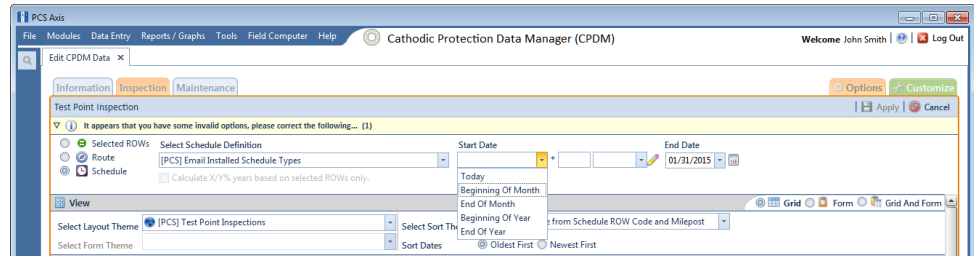

Figure 7-46. Start Date Options
- 1) Click the down arrow in the **Start Date** field (Figure 7-46) and select one of the following options: *Today*, *End Of Month*, *Beginning Of Year*, or *End Of Year*.